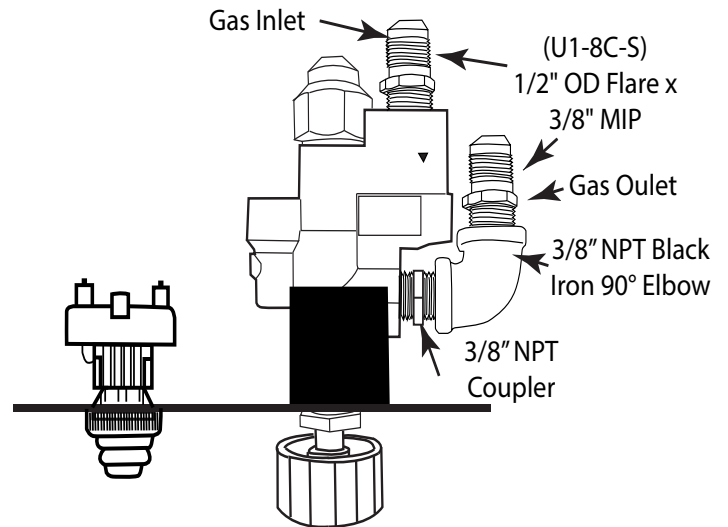

Fig. 7. Installing fittings.
STEP 2: Remove the 1/2" OD Flare x 3/8" brass fitting installed in the inlet side of the gas valve and install the 3/8" close nipple and black iron 90 degree elbow as shown in Fig. 7. Use gas rated Teflon tape or compound on both male threads of the nipple. Ensure the fittings are tight to prevent any gas leaks.
STEP 3: Clean off the male threads of the 1/2" OD Flare x 3/8" brass fitting, Apply gas rated Teflon tape or compound to the male threads and install it into the other end of the close nipple. See Fig. 7.